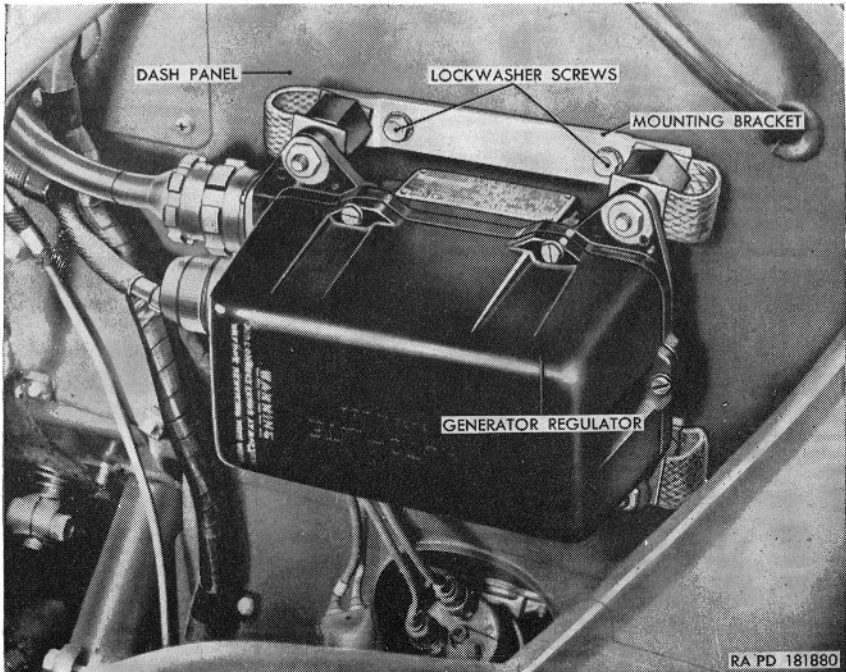

Figure 27.1. (Added) Generator regulator assembly M170—installed.
49.1. Remove Generator Regulator Assembly M170 (fig. 27.1) (Added)